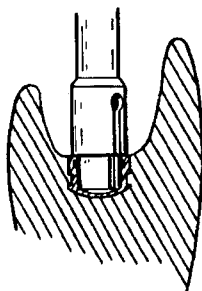

Fig. 2
1. Using a lab handpiece, guide the Male Coring Tool over the nylon male and core out the center post of the male at medium RPM. (Fig. 2)